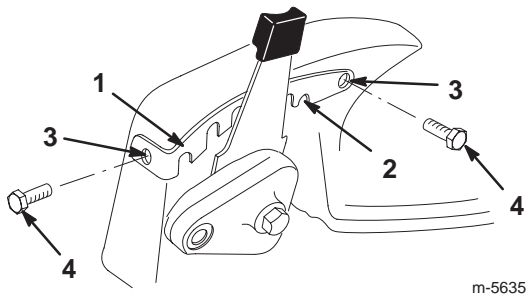

Figure 2
- Position each front wear plate as shown in Figure 2, aligning the notches in the wear plate with the notches in the lawn mower housing.
- Use each front wear plate as a template to locate and mark the two mounting holes on the lawn mower housing (Fig. 2).
- Secure each front wear plate with two 1/4–20 x 0.500 thread-forming bolts (Fig. 2).
- Secure each rear wear plate with two 1/4–20 x 0.750 thread-forming bolts (Fig. 2).